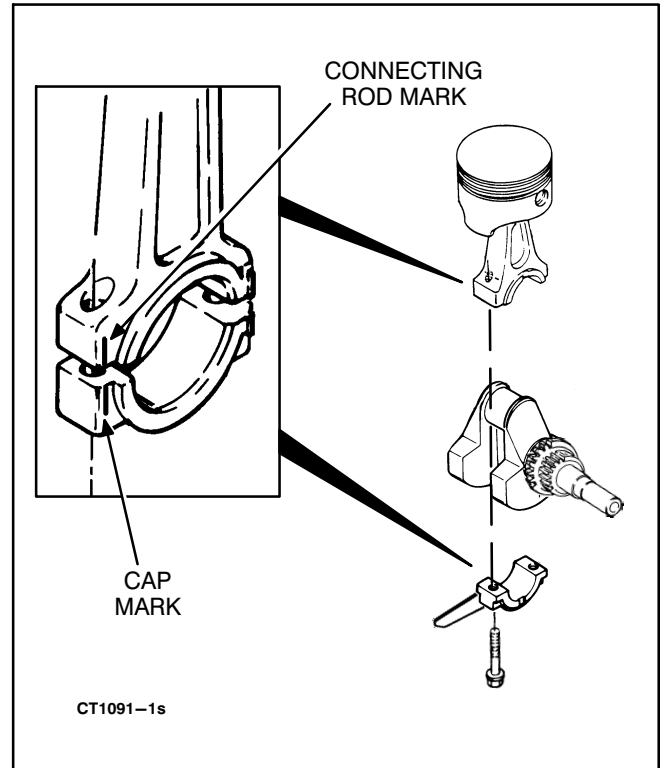

FIGURE 10-34. ROD CAP ASSEMBLY
**Installing the Piston in Cylinder:** When installing the piston assembly, observe the markings on the connecting rod, cap and splasher. See Figure 10-34.